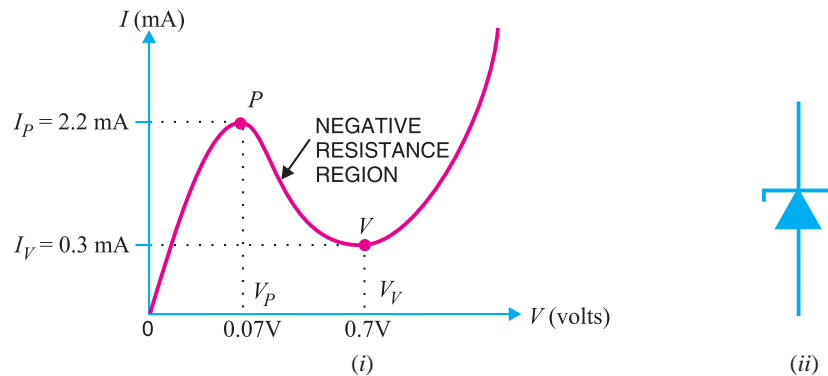

Fig. 7.18
**V-I Characteristic.** Fig. 7.18 (i) shows the V-I characteristic of a typical tunnel diode.
(iii) When forward bias is increased beyond valley-point voltage  $V_V (= 0.7 \text{ V})$ , the tunnel diode behaves as a normal diode. In other words, from point V onwards, the diode current increases with the increase in forward voltage *i.e.*, the diode exhibits positive resistance once again. Fig. 7.18. (ii) shows the symbol of tunnel diode. It may be noted that a tunnel diode has a high reverse current but operation under this condition is not generally used.